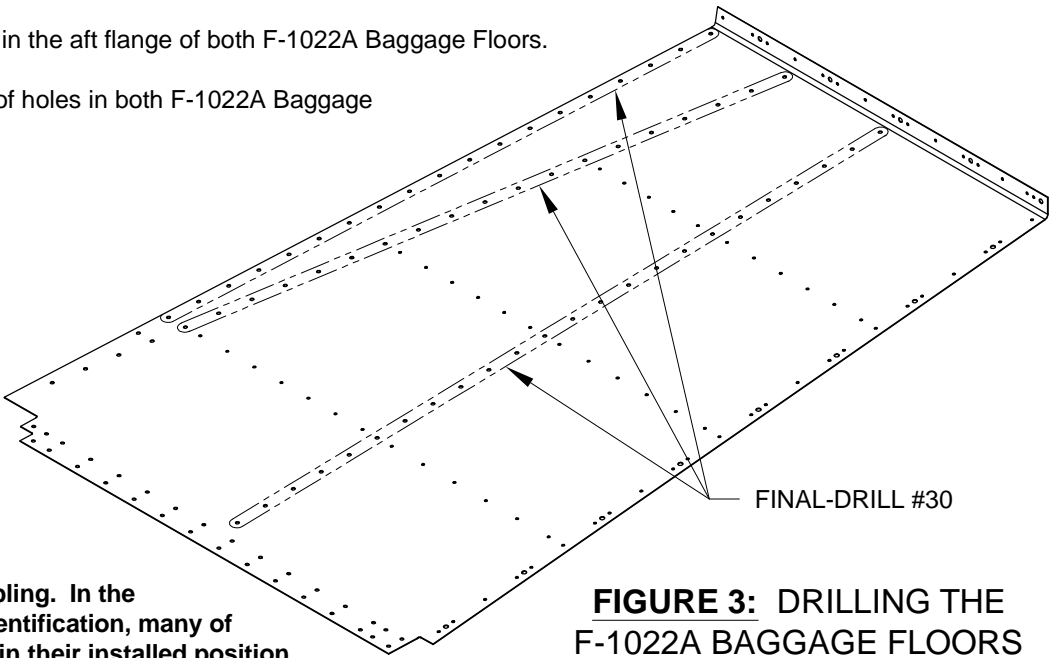

FIGURE 3: DRILLING THE F-1022A BAGGAGE FLOORS
Step 5: Final-Drill #30 the three rows of holes in both F-1022A Baggage Floors indicated in Figure 3.